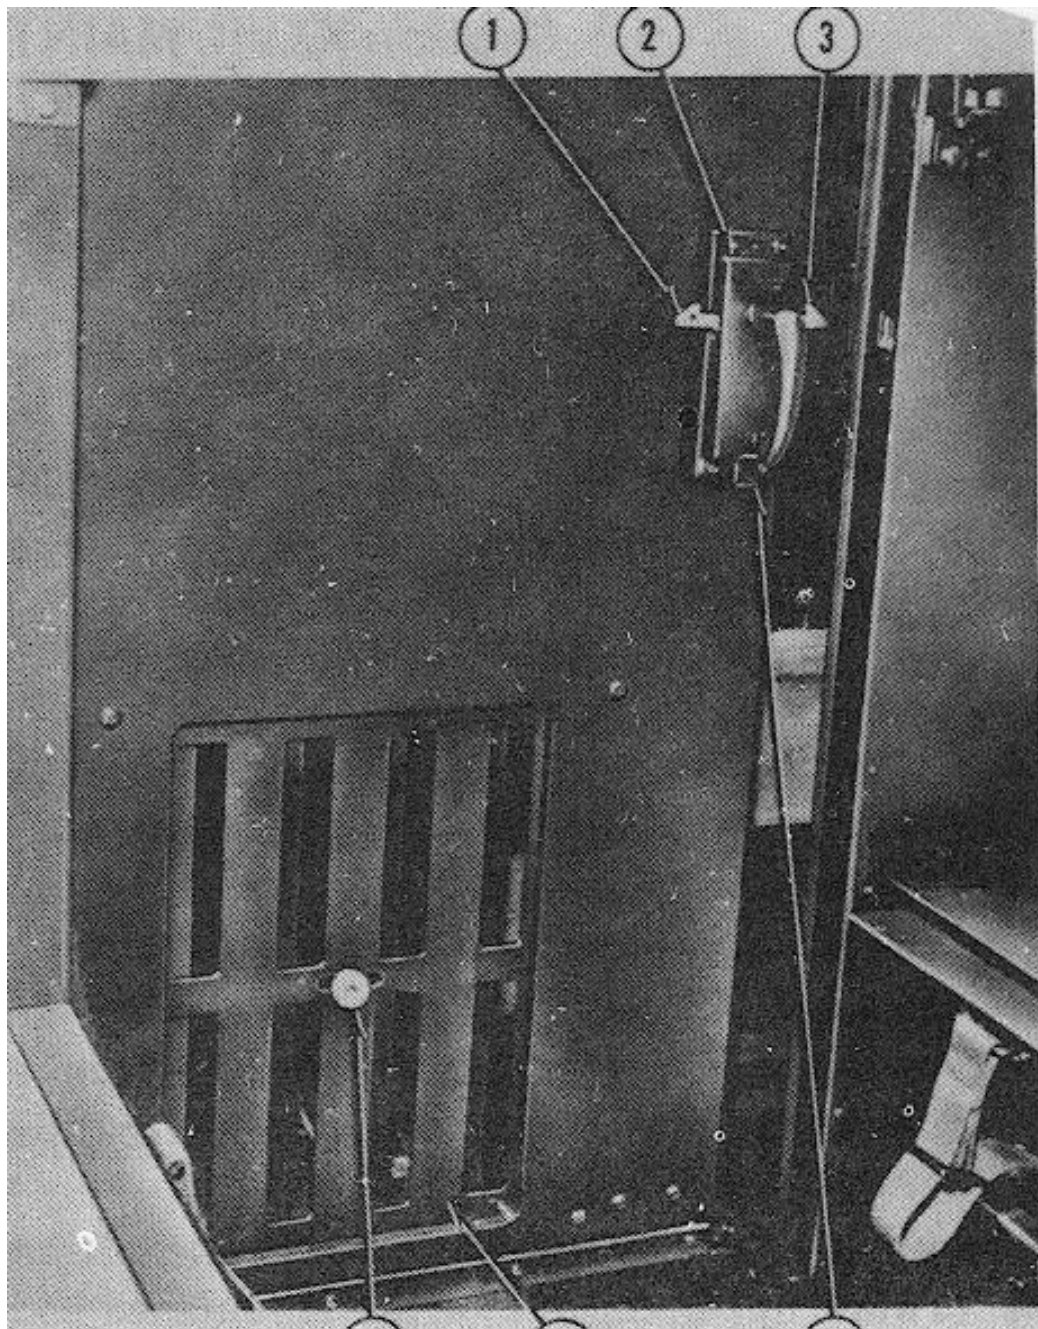

Figure 2-94. Bulkhead door.
(1) Straightening tailgate.
(2) Straightening cargo sides.
(3) Straightening tailgate latching brackets.
(4) Adjusting hinges.
f. Bulkhead Door Adjustment (Ambulance). (Fig 2-94)
(1) The bulkhead door is a sliding door on the inside of the cab. The double catch on the door engages on the right in the closed position or on the left in the